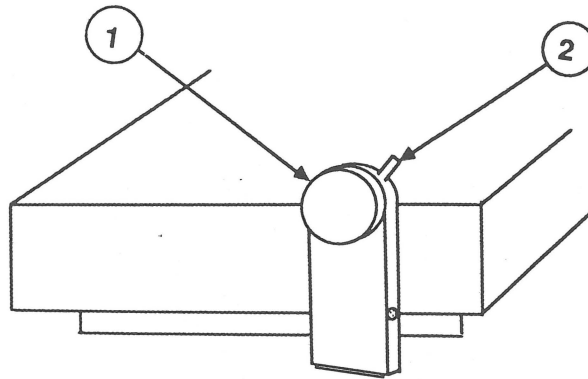

FIGURE 28
11. Reinstall the paper lever (Figure 28, #2) and knob (Figure 28, #1) on the right leg.